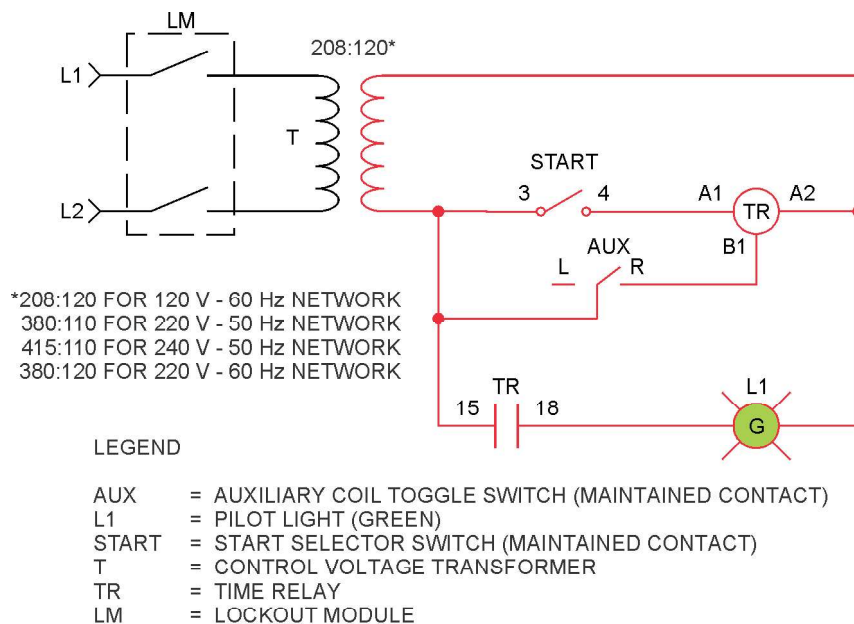

Figure 6-5. Basic time-delay circuit.
Figure 6-5 shows a time-delay circuit. When the selector switch closes, the time relay coil is energized. If an on-delay is set, the NO contact closes after the preset time  $t$ , turning on the green light. Opening the selector switch de-energizes the circuit, turning off the green light.
2. Connect the circuit shown in Figure 6-5. Use the SS-1 contact of the Selector Switches module.